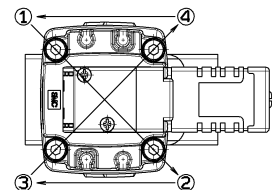

Figure 2 Head screw tightening procedure
- (1) Loosen four hexagon socket head cap screws on the cover, and then remove them from the body assembly. Make sure to loosen the four head screws evenly a little at a time to avoid galling between the head screws and the threaded parts of the body.
- (2) Remove foreign matter in the body assembly.
- (3) Insert the hexagon socket head cap screws to the maintenance assembly cover, then assemble to the body assembly with the tightening torque in Table 1. According to the head screw tightening procedure shown in Fig. 2, tighten the four screws evenly a little at a time.